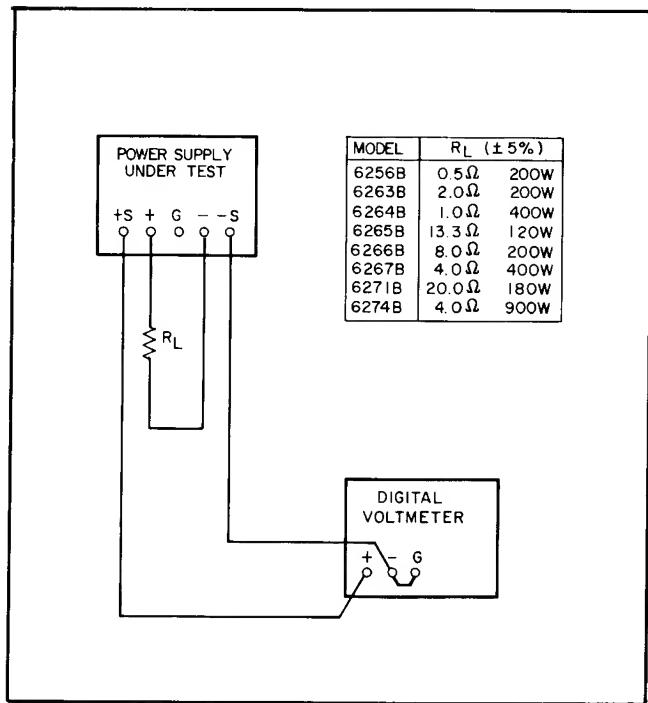

Figure 5-1. Constant-Voltage Load Regulation Test Setup
- a. Connect load resistor (R_L) indicated in Figure 5-1 across output terminals of supply.
- a. Connect test setup shown in Figure 5-1.
- Connect test setup shown in Figure 5-1.
- Connect load resistance and digital voltmeter as illustrated in Figure 5-1.